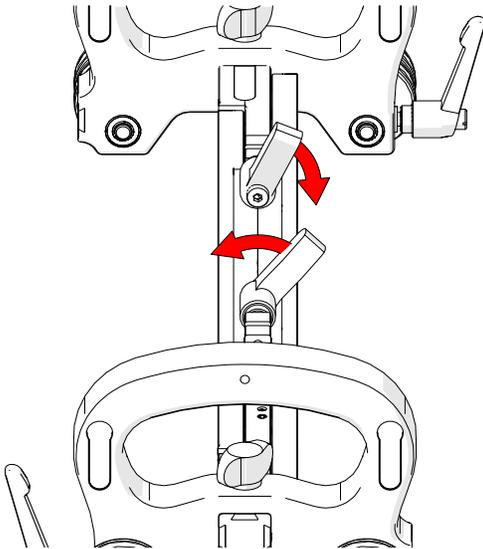

Fig. 89 - Lock dual pivot frame bar levers
2. Ensure the ratchet levers of the dual pivot frame bar are tightly locked (*Fig. 89*).